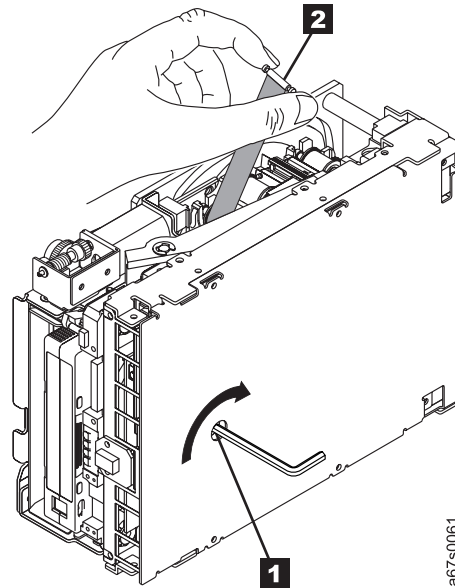

Figure 163. Rewinding the leader pin into the tape cartridge
1. Place the tape drive so that the front faces you, then tilt it on its left side (see Figure 163 on page 277).
3. If necessary, use needle-nose pliers to grasp the end of the leader pin and pull it out of the cartridge so that you can grip it with your fingers (see **1** in Figure 163 on page 277).